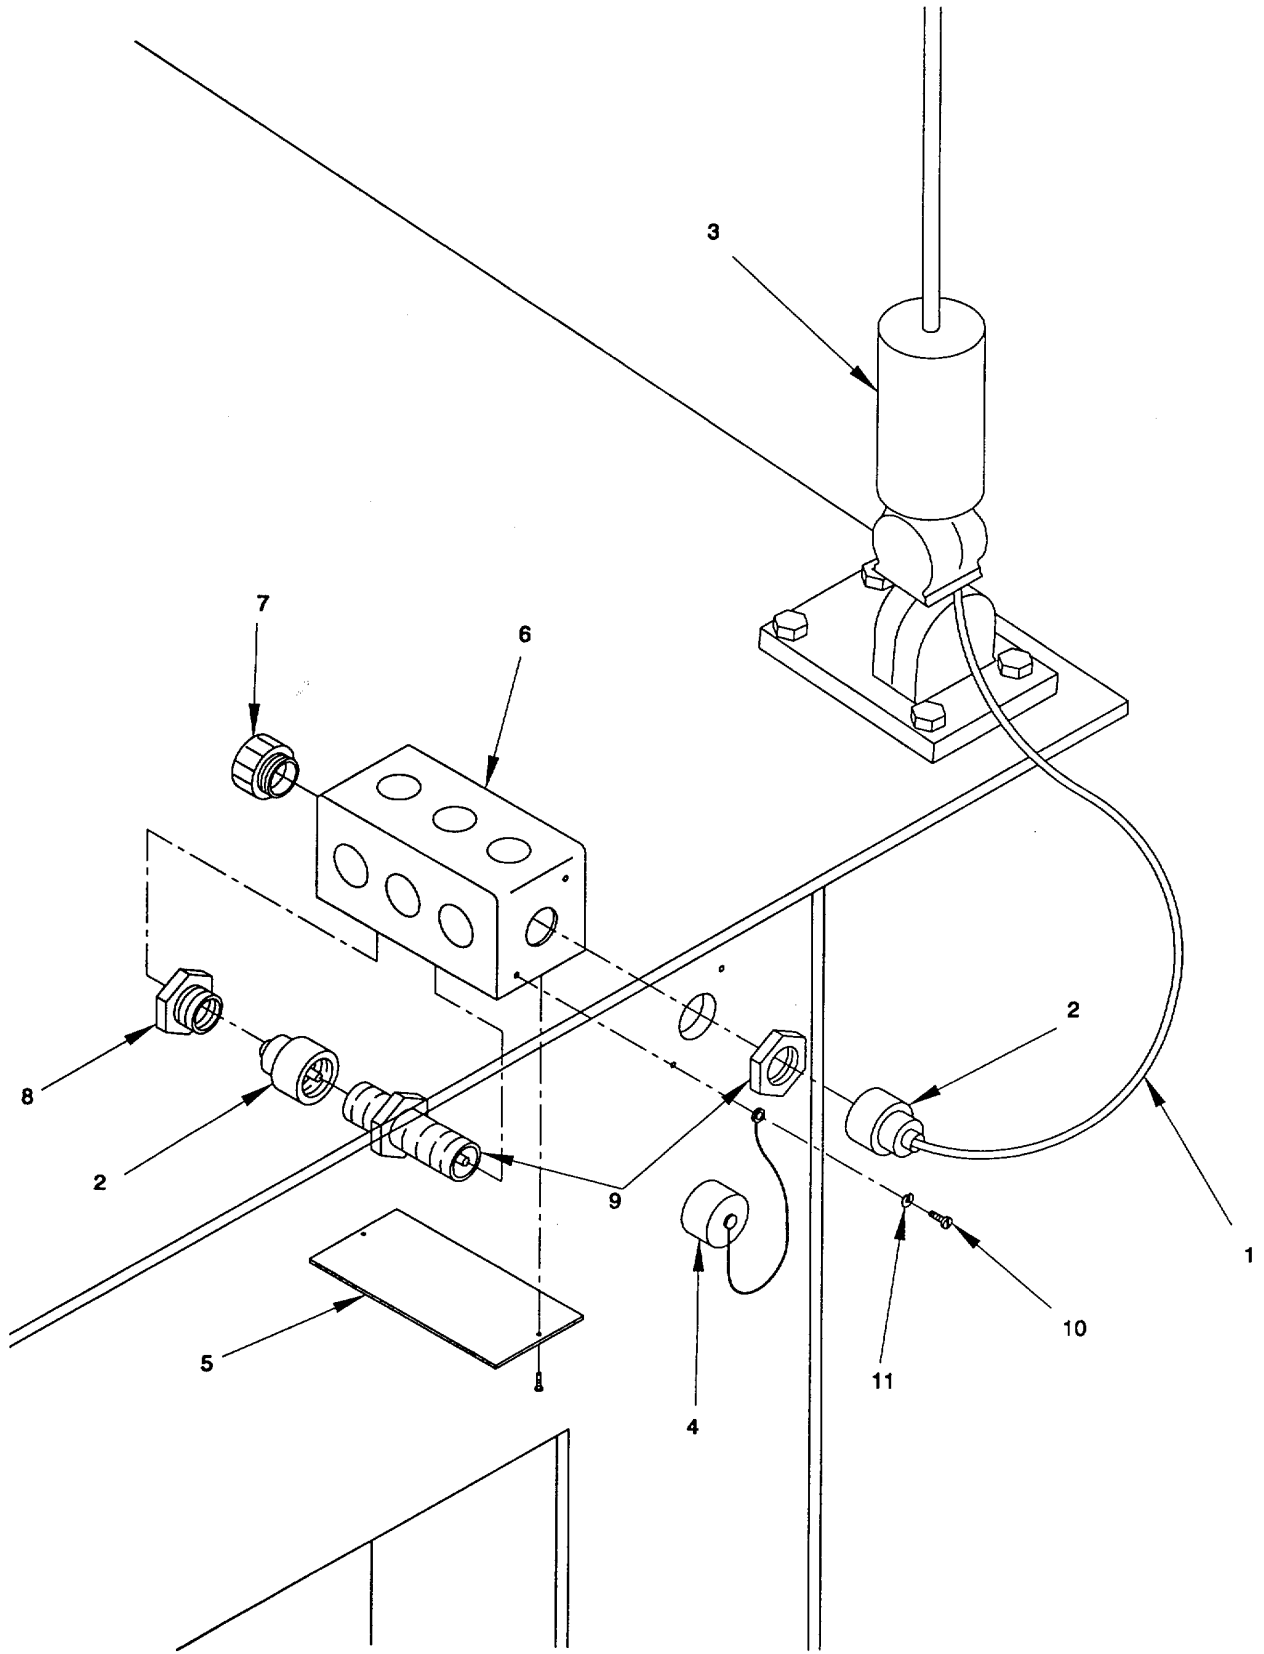

Figure 2-107. Antenna Power Cable (VHF-FM), Remove/Install
a. Remove. (figure 2-107)
- (1) Disconnect antenna power cable (1) at UHF plug (2) and antenna (3). Remove antenna power cable (1). Install cap (4) on UHF plug (2) if antenna power cable (1) will be removed for a period of time.
- (2) Remove cover (5) from junction box (6).
- (3) Remove UHF plug (2), terminal tube (7), flat washer nut (8) and UHF bulkhead feedthrough (9).
- (4) Inspect UHF plugs (2), terminal tube (7) and UHF bulkhead feedthrough (9) for damage. Replace as necessary.
- (5) To remove cap (4), remove pan head screw (10) and lock washer (11) securing cap (4) to structure.
b. Install. (figure 2-107)
- (1) Install cap (4), if removed, by securing to structure with lock washer (11) and pan head screw (10).
- (2) Install UHF bulkhead feedthrough (9), flat washer nut (8), terminal tube (7) and UHF plug (2) on junction box (6).
- (3) Replace cover (5) on junction box (6).
- (4) Connect new antenna power cable (1) at UHF plug (2) and antenna (3).